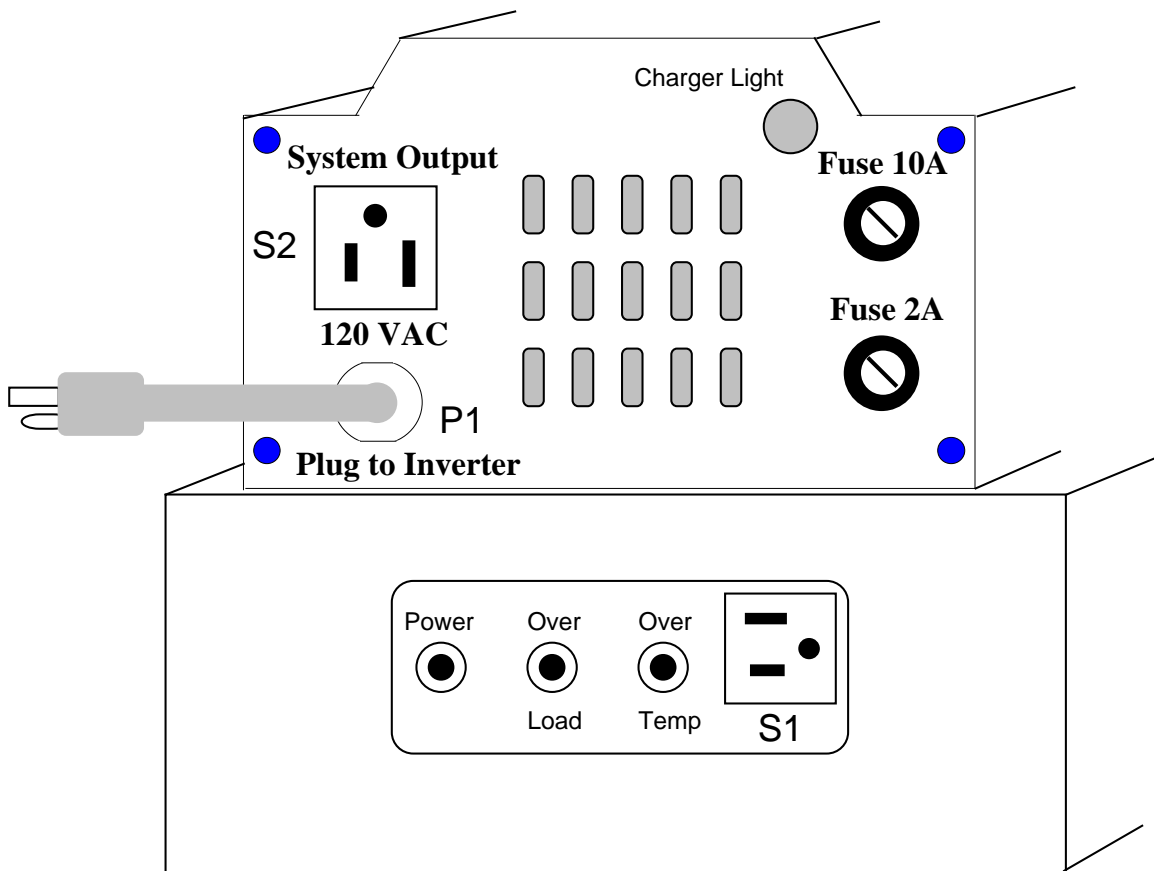

Figure 1
Figure 1 shows the front view of the unit.
E) Connect the appliance to be powered to receptacle S2 shown in Figure 1.